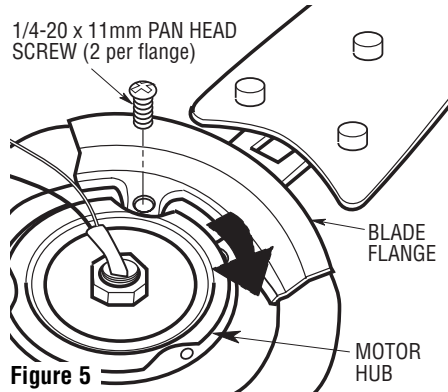

Figure 5
- 3. Rotate the motor hub to position the slot in the motor plate over a fan motor/housing flange hole. Attach the blade flange assembly on the fan motor/housing by slowly rotating the motor hub to align screw holes. Tighten the screws securely while interlocking the flange assemblies as you rotate the hub (Figure 5).